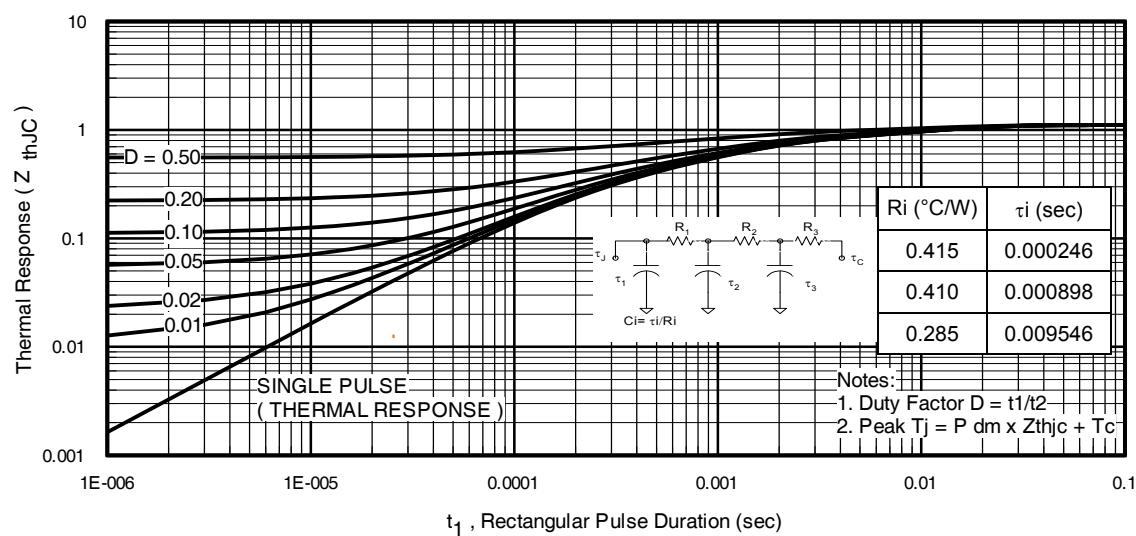
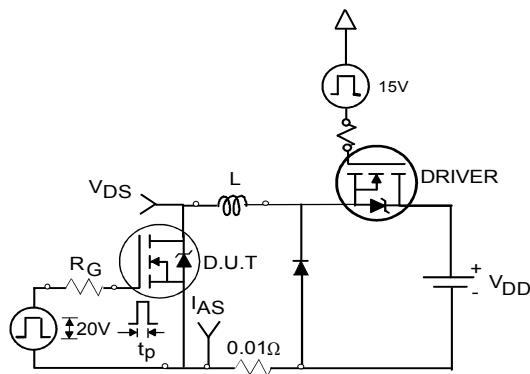

Fig 11. Maximum Effective Transient Thermal Impedance, Junction-to-Case
Fig 12a. Unclamped Inductive Test Circuit
- ① Repetitive rating; pulse width limited by max. junction temperature. (See fig. 11)
- ② Limited by $T_{J\max}$, starting $T_J = 25^\circ\text{C}$, $L = 0.077\text{mH}$, $R_G = 25\Omega$, $I_{AS} = 51\text{A}$, $V_{GS} = 10\text{V}$. Part not recommended for use above this value.
- ③ Pulse width $\leq 1.0\text{ms}$; duty cycle $\leq 2\%$.
- ④ $C_{oss \text{ eff.}}$ is a fixed capacitance that gives the same charging time as C_{oss} while V_{DS} is rising from 0 to 80% V_{DSS} .
- ⑤ Limited by $T_{J\max}$, see Fig.12a, 12b, 15, 16 for typical repetitive avalanche performance.
- ⑥ This value determined from sample failure population, starting $T_J = 25^\circ\text{C}$, $L = 0.077\text{mH}$, $R_G = 25\Omega$, $I_{AS} = 51\text{A}$, $V_{GS} = 10\text{V}$.
- ⑦ When mounted on 1" square PCB (FR-4 or G-10 Material). For recommended footprint and soldering techniques refer to application note #AN-994 : <http://www.irf.com/technical-info/appnotes/an-994.pdf>
- ⑧ R_θ is measured at T_J approximately 90°C .
3. Equation below based on circuit and waveforms shown in Figures 12a, 12b.